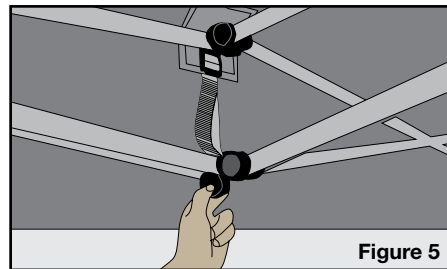

Figure 5
2. Finally, locate the adjustable webbing strap with hook positioned half way along the inside of the canopy side panel. Insert the hook into the slot in the scissor action strut grey plastic connector as indicated in Figure 5. Now tension the webbing strap adjuster to ensure there is no loose fabric for water to collect in the roof area.